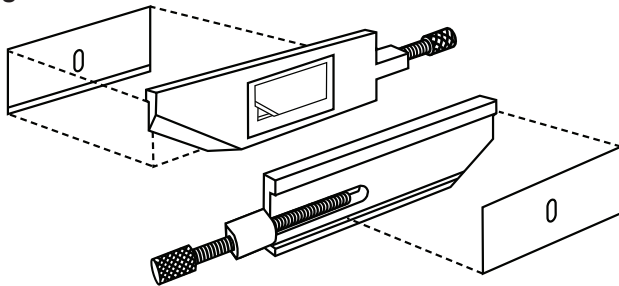

Fig. 4
3. Insert blade slide into cutting head (Fig. 4).